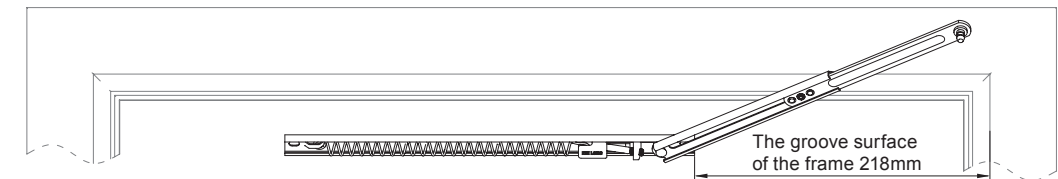

Figure 1
Step 1: Using the scale line which is at the bottom of the limiter to mark: 218mm away from the groove surface of the frame (as shown in figure 1);